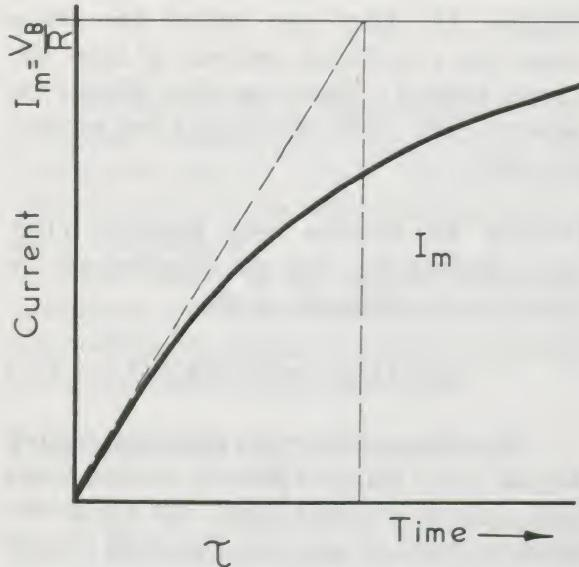

Figure 37.
To apply Equation (19) look at the graph in Figure 37. A dashed line is drawn tangent to the curve at $t = 0$ (at the origin) and is extended until it meets the horizontal line representing maximum current. Another dashed line is then drawn from that intersection down to the horizontal time axis. The slope of a curve at a point on the curve is defined as the same as the slope of the straight line which is tangent to the curve at that point. Thus, the slope of this curve at $t = 0$ is the slope of the dashed line. Then the slope has a "rise" of I_m and "run" of τ , where τ is a certain time interval. The slope is therefore I_m / τ .